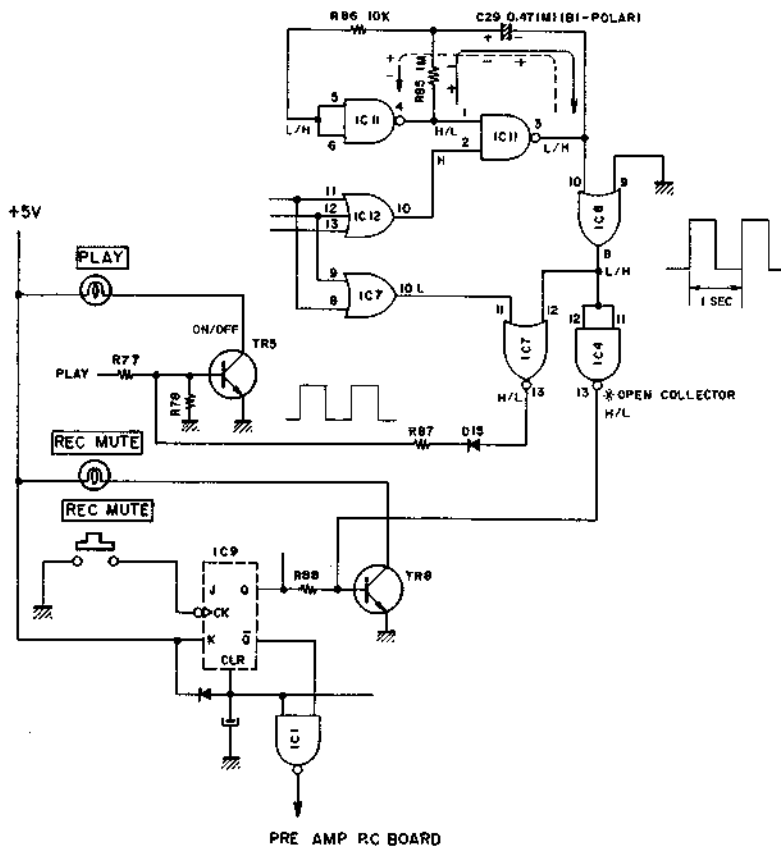

Fig. 8 Oscillation
3) If in the above modes, to one of IC12-11, 12, 13 is input the High Level so IC11-2 becomes High Level. Then as IC11-3 changes to Low Level, charging current flows through R85 to C29 as shown by the solid line in Fig. 8. During the charging period, (C29 and R85's fixed time constants) IC11-5 and 6 are kept at High Level but once charging has finished the voltage drop becomes 0 and IC11-5, 6 changed to High Level. When IC11-5, 6 change to High Level, IC11-4 changes to Low Level, and IC11-3 changes to High Level and now the charging current flows to C29 as shown by the dotted line. During the charging period, IC11-5, 6 are kept at high Level due to the R85's voltage drop, but when the voltage drop becomes 0, IC11-5, 6 change to Low Level and IC11-4 to High Level and IC11-3 to Low Level and again the charging current flows as shown by the solid line. As this operation is repeated, square waves of approximately 1 Hz are input into IC8-10 and the same kind of wave form appears in IC8-8.